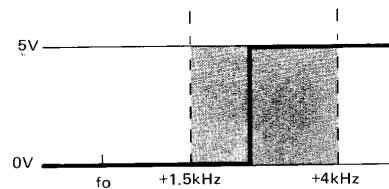

Figure 1
- e) Referring to Figure 1, raise the signal generator frequency gradually to confirm that the voltage rises to 5V within 1.5 to 4.0 kHz above the display frequency.